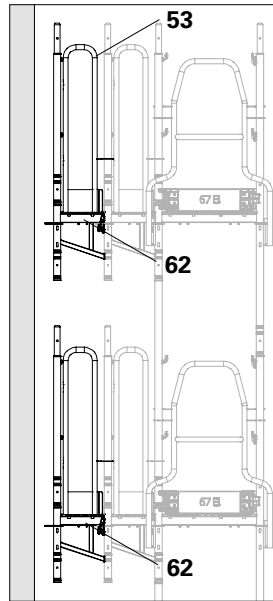

Fig. D1.06
- Fit Console Bracket ECM 33 (**62**) onto the edge frame column with pre-assembled Guardrail Post EVP (**50**). (Fig. D1.06 + D1.06a)